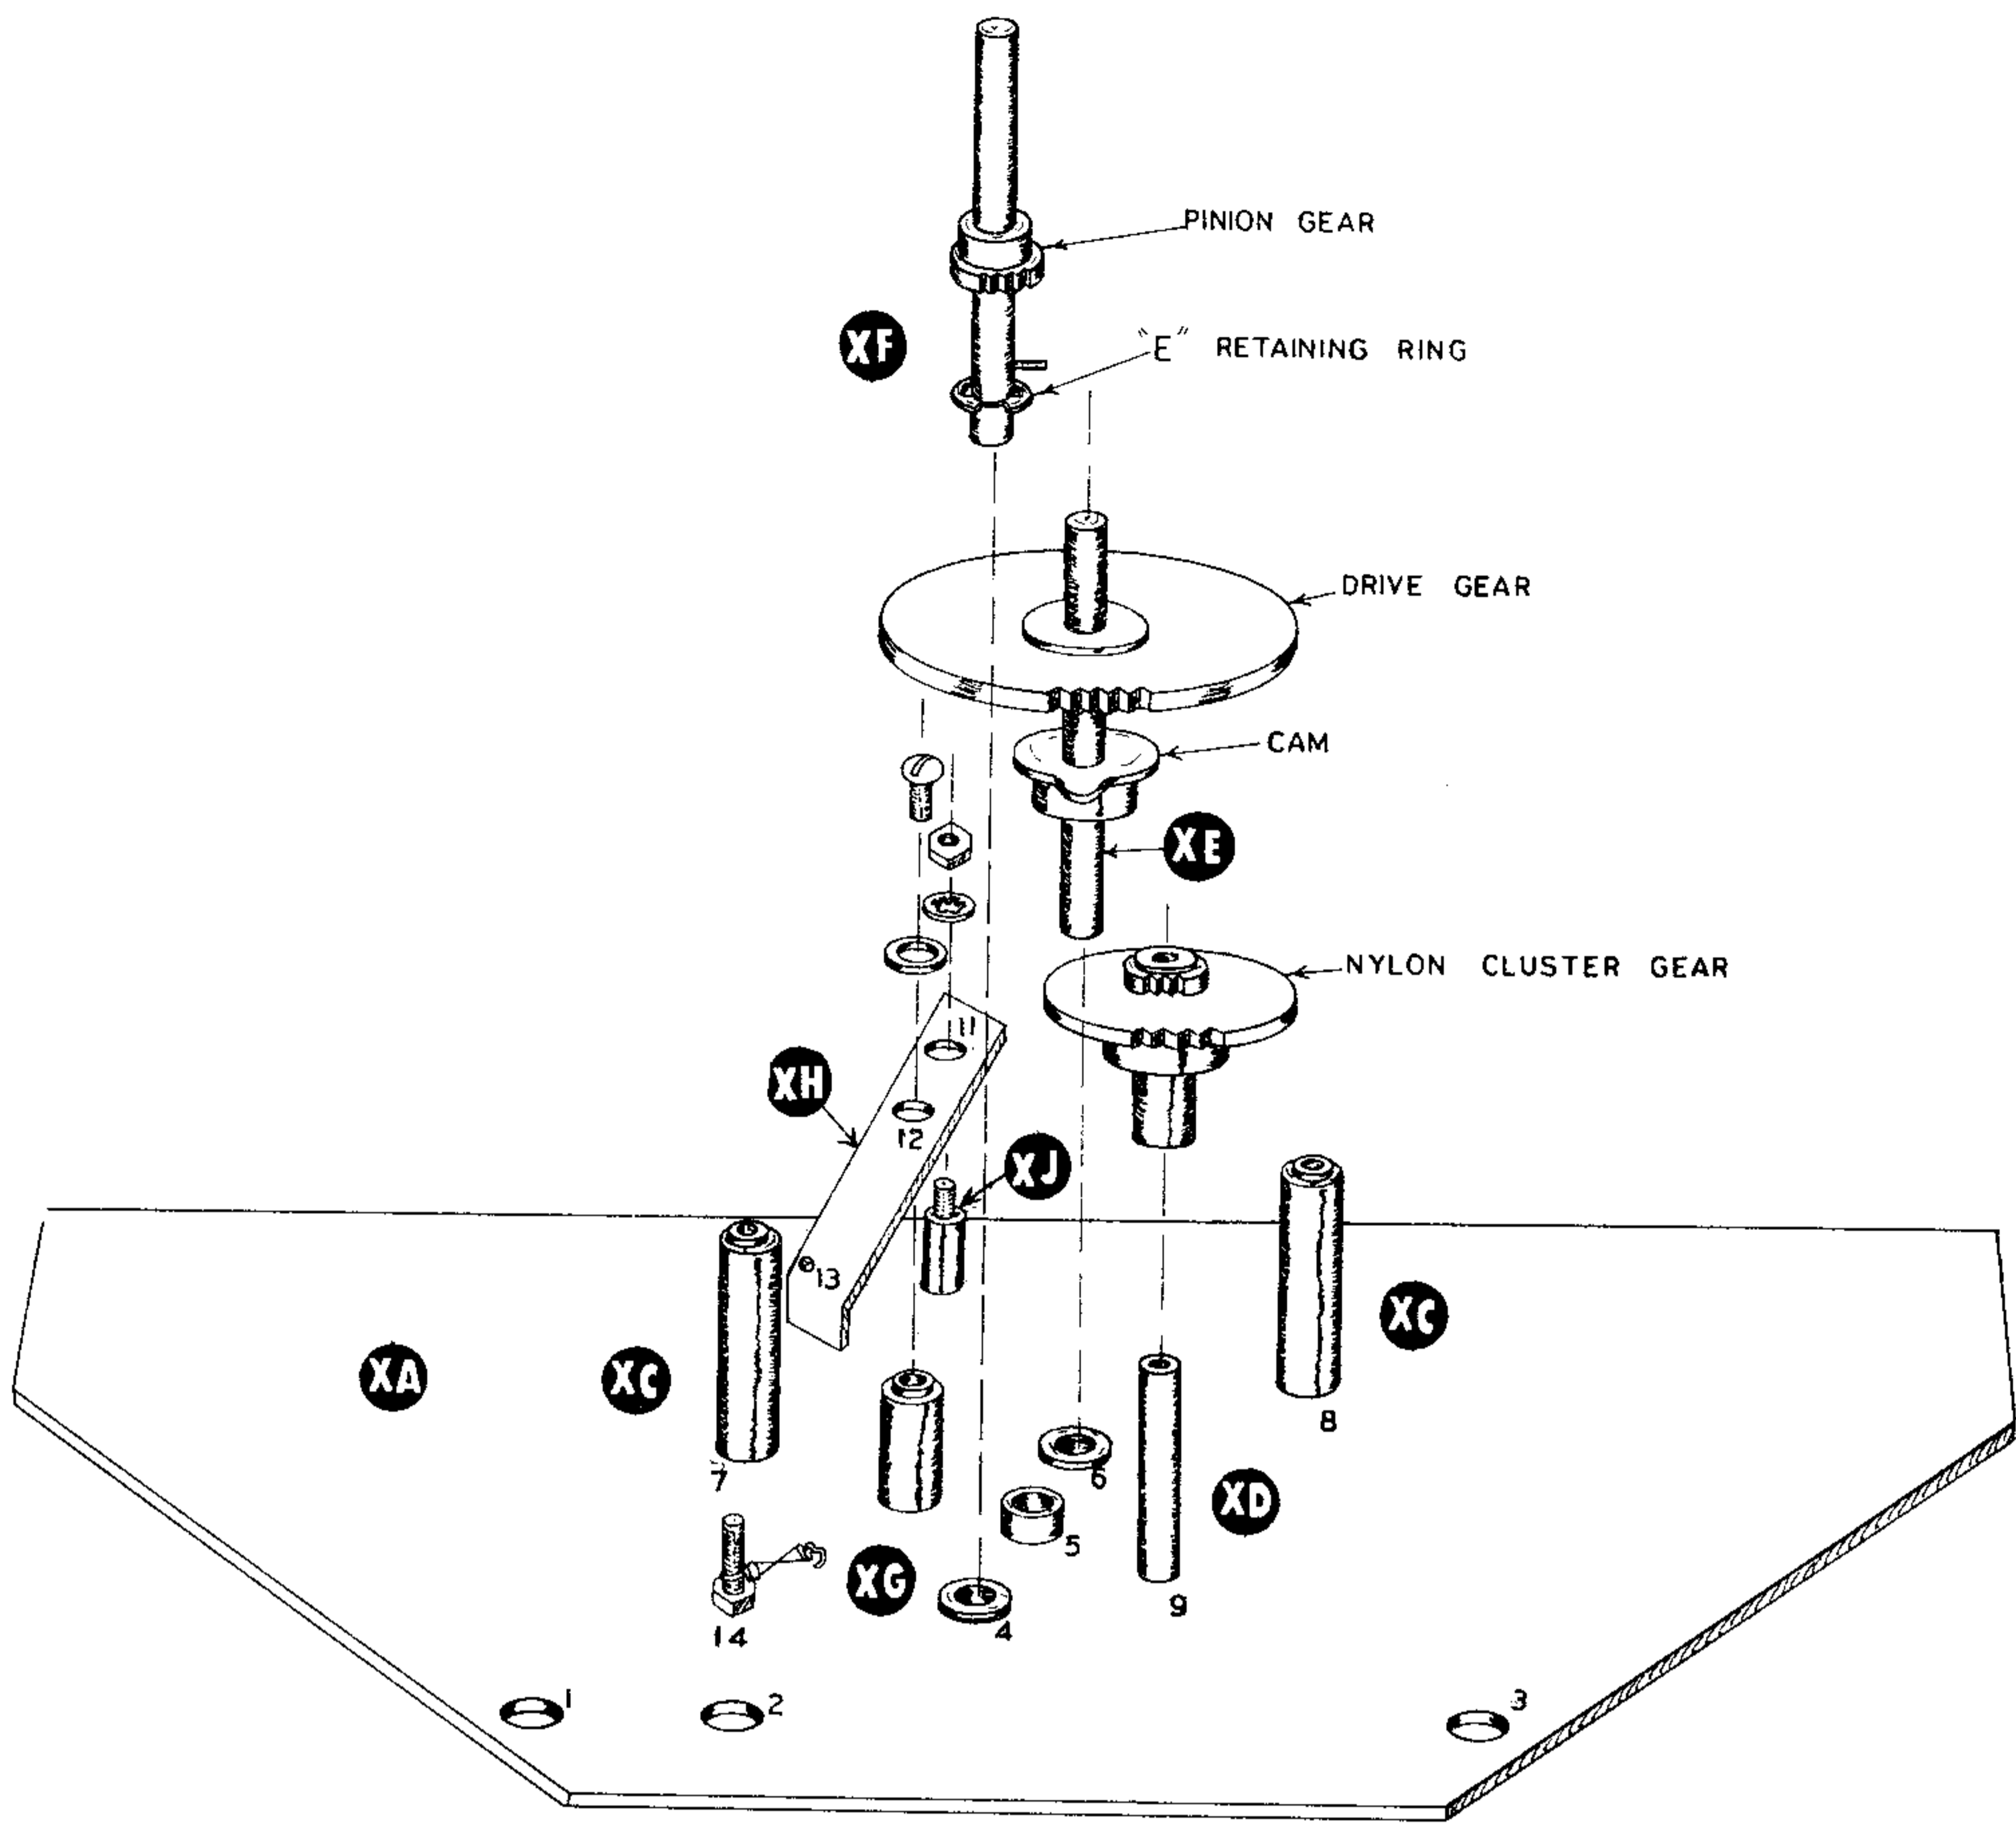

Figure 8
- () Place the backplate XA on the top of an open cardboard box with the flanged side of the three bronze bearings up and the narrow side toward you, as in Figure 8. Placing the unit on a box allows it to be flat and permits the shaft to be inserted through the bearings and supports them in position. From time to time it will be necessary to pick up the backplate for assembly purposes but returning it to the "reference" position will make the assembly instructions clearer.